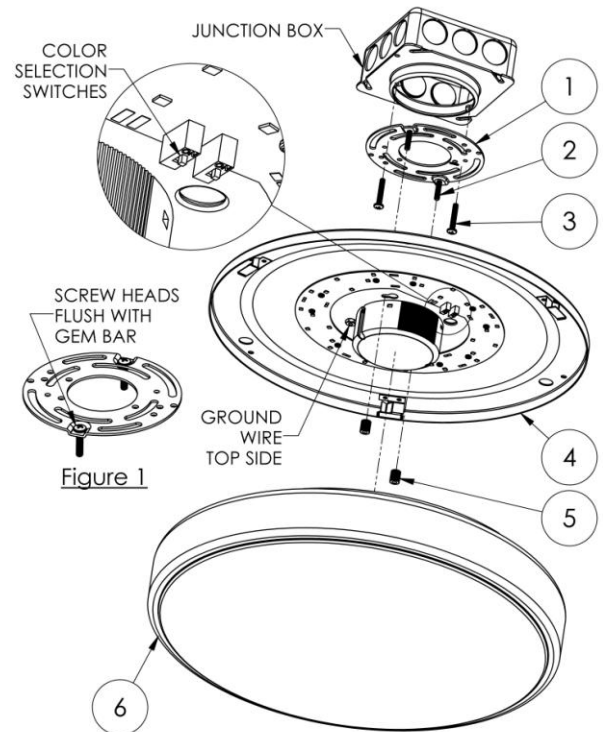

Figure 2
- B. Using wire nuts (provided), connect white (N) supply wire to white fixture lead. Connect black (L) supply wire to black fixture lead. **Do not mix wires.** Pull on each wire lead to make sure connections are secure. Make certain no bare wires are exposed outside of wire connectors. Tuck all connections neatly into junction box.
- A. Align back pan (4) to two screws (2) on round gem bar and secure with two thumb nuts (5) as shown in **Figure 2**.
- A. Set the two color selection switches in **Figure 2**, according to the desired color temperature as shown below. **Note:** Fixture is preset to 3500K from factory.